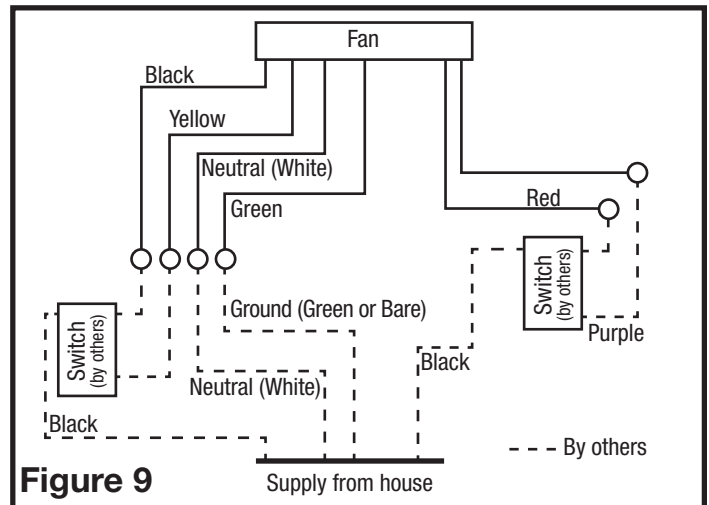

Figure 9
- 3c. **Wiring the Lights:** Using a properly grounded standard wall switch, connect the black wire from the supply to one side of the switch. Connect the Red wire (light) from the fan housing to one of the terminals on the switch. Connect the Purple wire (night light) from the fan housing to a separate terminal on the switch. (Figure 9). Use approved methods for all connections.